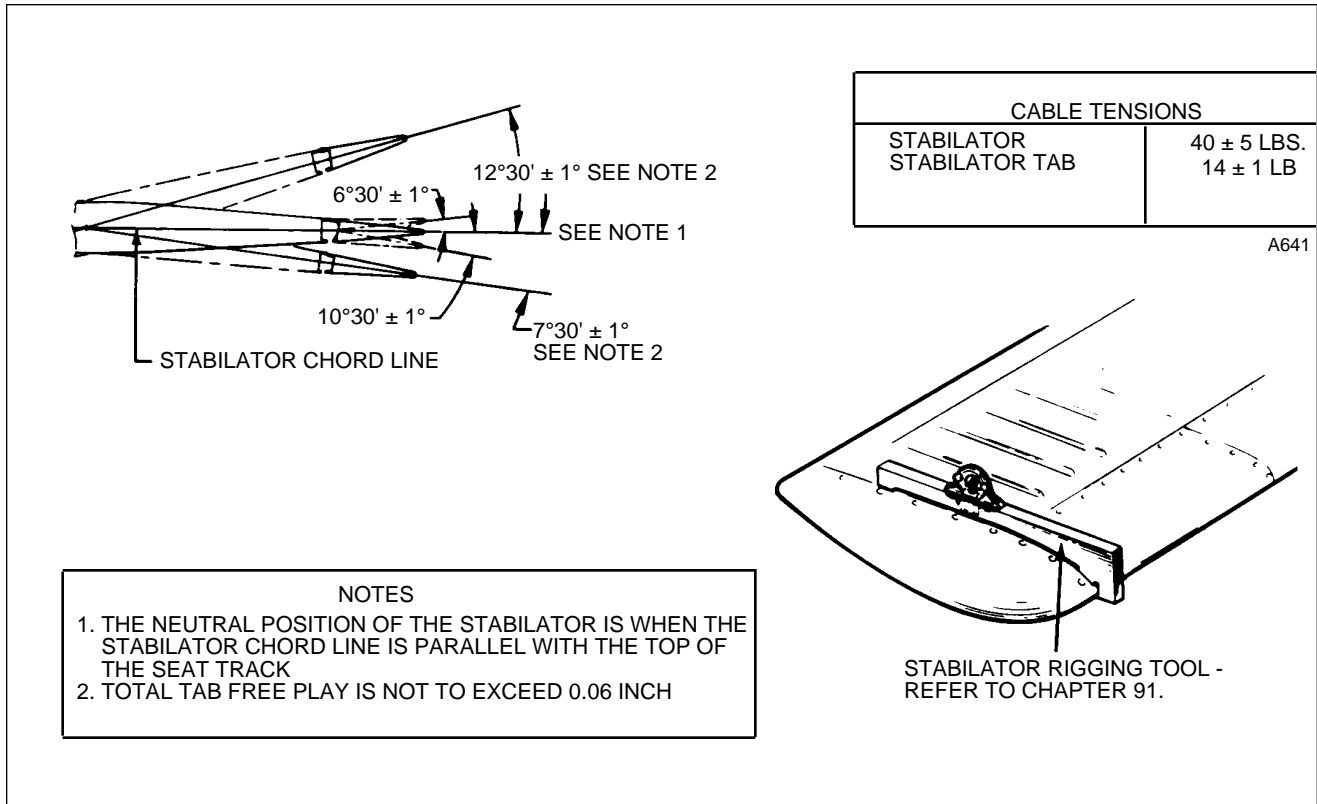

Figure 27-18 Stabilator Rigging
- i. Set cable tension per Figure 27-18 and check rigging and adjustment.
The stabilator control system is designed to have the stabilator in neutral when the stabilator chord line is parallel to that of the front seat tracks. Travels as specified in Figure 27-18, are measured from the neutral point.
2. Remove the tail cone, and adjust the stabilator stops to obtain the travels specified in Figure 27-18. The stabilator travel can be determined using the rigging tool as shown and is described in Chapter 91. To check stabilator travel proceed as follows:
- a. Align the stabilator rigging tool on the upper surface of the stabilator as shown in Figure 27-18.
- b. Position the stabilator in neutral and, using a bubble protractor, set the number of degrees up travel as specified in Figure 27-18.
- d. Again place the stabilator in neutral and using the values from Figure 27-18, proceed with measuring the down angle.
- c. Evenly adjust the cable tensions to those specified in Figure 27-18.
- c. Rotate the trim wheel and cross check the travels with those in Figure 27-18.